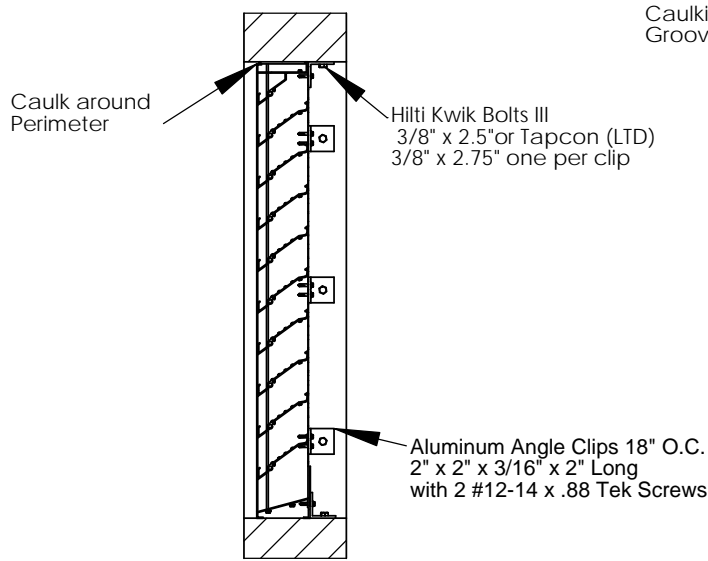

Fig. 1 - IC-436-1
1. Anchoring into Concrete or Masonry: See Fig. 1 & 2, Model IC-436-1, IC-436-2 for detailed instructions.
2. Install louver into opening. Shim as required at each set of installation anchors using load-bearing shims. Max. allowable shim stack to be ¼". Use shims where space greater than 1/16" is present. Fasten angle clips to IC-436-1 louver with two (2) #12-14 x .88 TEK screws. Use 3/8" Dia. Trubolt wedge anchors of sufficient length to achieve min. of 3" embedment into concrete or masonry with min. 3" edge distance.